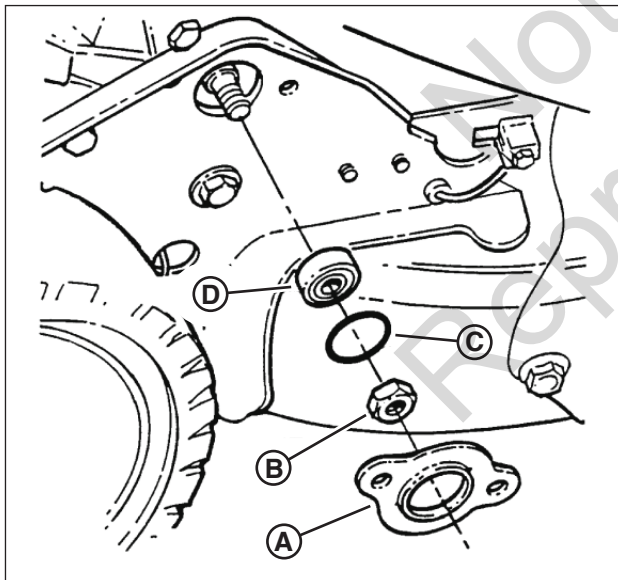

Figure 31: Replacing the hex shaft bearing
2. Remove the 3/8" hex lock nut (**B, Figure 31**), located on the outside of the right wheel bracket.